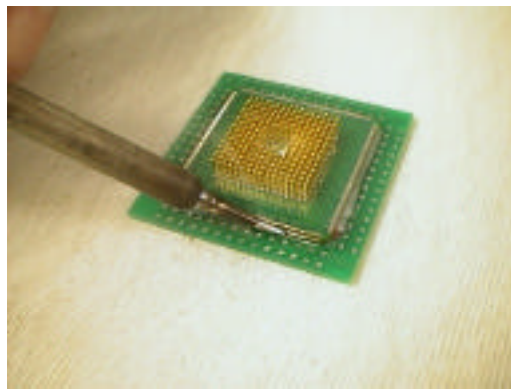

Figure 5: Soldering Process
(6) Start at one corner and pull the tip of the soldering iron along the side of the foot as shown in Figure 5. Continue down the side of the foot until a suitable fillet is present between all adapter pads and target PCB pads.
(7) Repeat this step for the remaining three sides of the adapter. Caution must be used when touching the soldering iron tip to the emulator foot. Excessive heat or pressure may damage the pads on the adapter or on the target